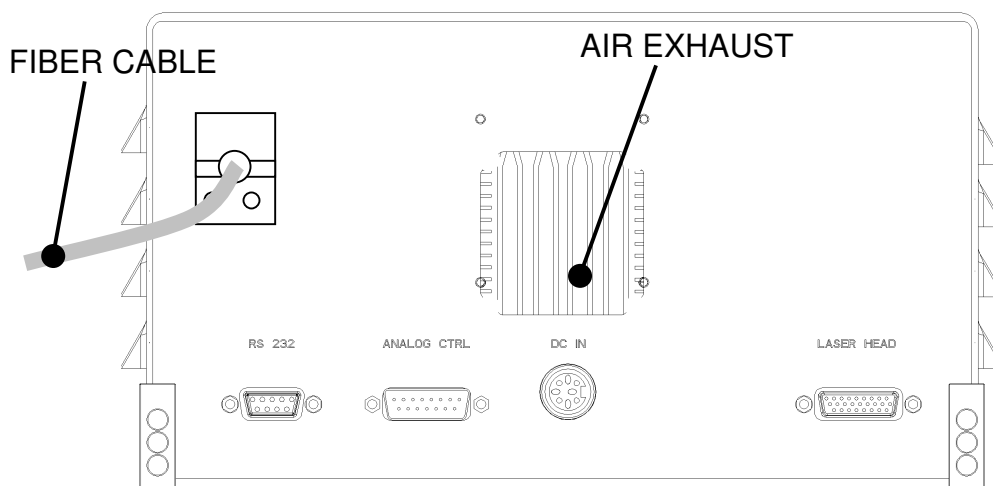

Figure 6-3: Rear Panel, *Model L20*
1. The two interlock pins (Pins 7,8) of the ANALOG connector on the rear panel (Figure 6-3) also must be jumpered or connected to an external, closed safety switch. When these paired contacts are open, the diode laser is turned off. If you are not going to employ a safety switch, attach the shorting plug to the ANALOG connector. All relays or switches that are used for this purpose should be designed for a 24 VDC, low-current signal.